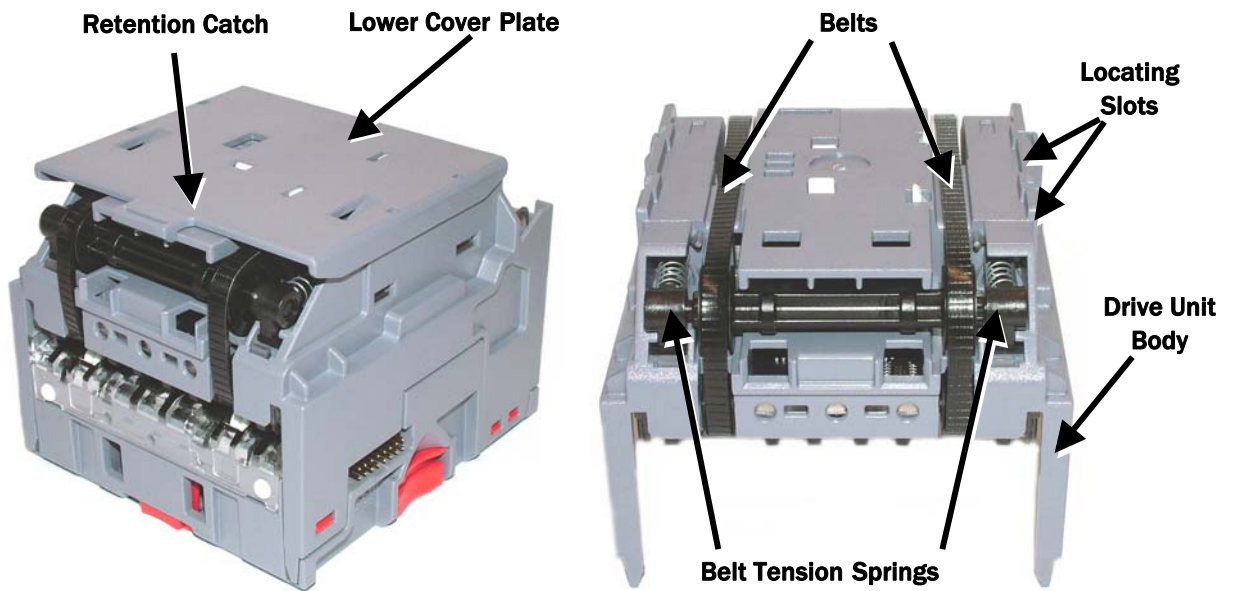

Figure 12 - NV10 Belt Access
- Remove the lower cover plate by lifting up the retention catch and carefully sliding it back (see figure 12).